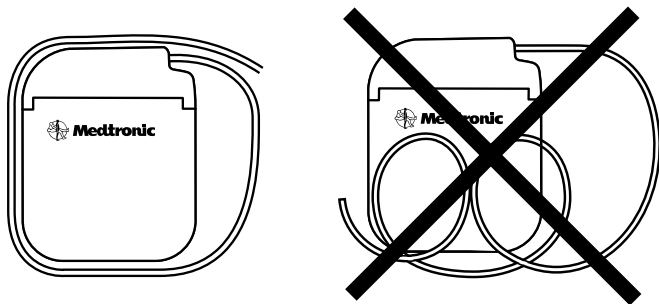

Figure 3. *Wrap excess extension around the perimeter of the neurostimulator.*
- Do not coil excess extension in front of the neurostimulator. Wrap excess extension around the perimeter (Figure 3) of the neurostimulator to minimize subcutaneous pocket depth, help minimize potential damage during